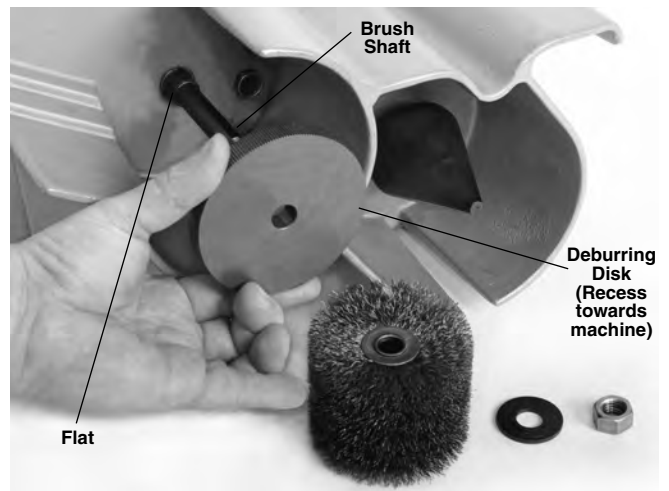

Figure 5 – Installing Deburring Disk
1. Hold the O.D. brush shaft stationary by gripping the flats located near the surface of the housing with a 9/16" wrench (Figure 5).